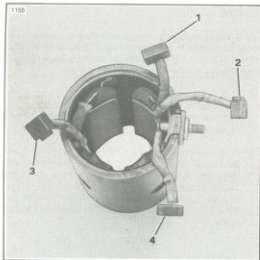

Figure 5-9. Brush Identification
- See Figure 5-9. Two of the brushes (2 and 4) are attached to the terminal. To replace these brushes, remove the terminal assembly and slide the new assembly on the frame.
- See Figure 5-9. The outer two brushes (1 and 3) are attached to the field coils. To replace these brushes, cut the old brushes and leads about $\frac{1}{2}$ in. from the field coils. Using rosin core solder, solder the new brushes in place making sure the new brushes are in the same position as the old ones.